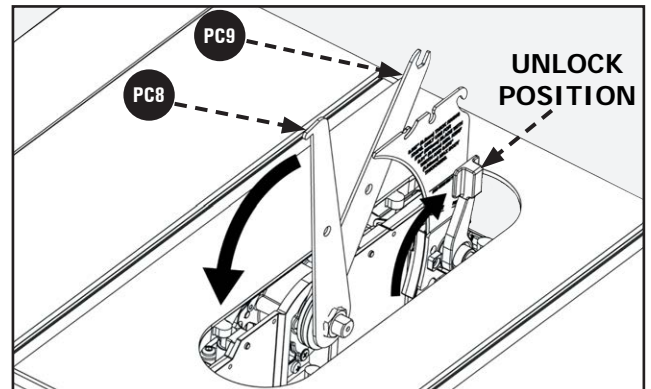

FIGURE 7
2. Ensure Riving Knife Lock Lever is in unlock position. See Figure 7.
5. Holding the Spindle Shaft in place, loosen and remove the Arbor Nut and Arbor Flange Washer. See Figure 7. Only use 10 inch blades designed for wood cutting.